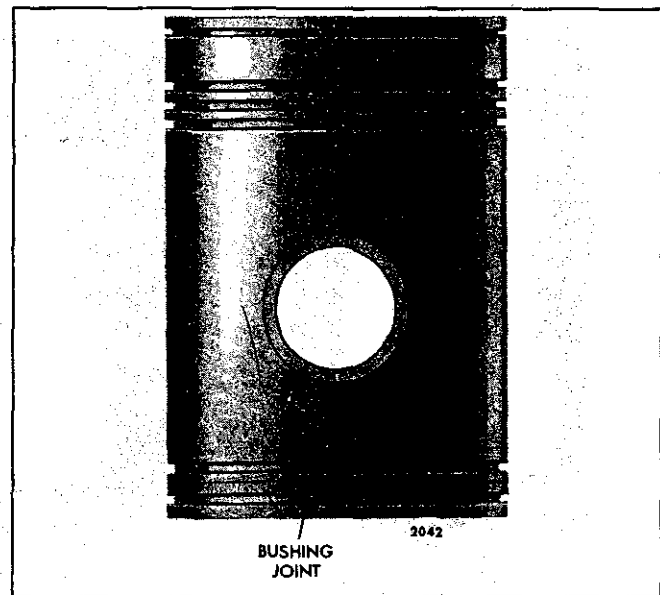

Fig. 6 – Location of Joint in Piston Pin Bushings
3. Insert the installer J 4972-2 in a bushing, then position the bushing and installer over the lower bushing bore. Locate the joint in the bushing toward the bottom of the piston (Fig. 6).